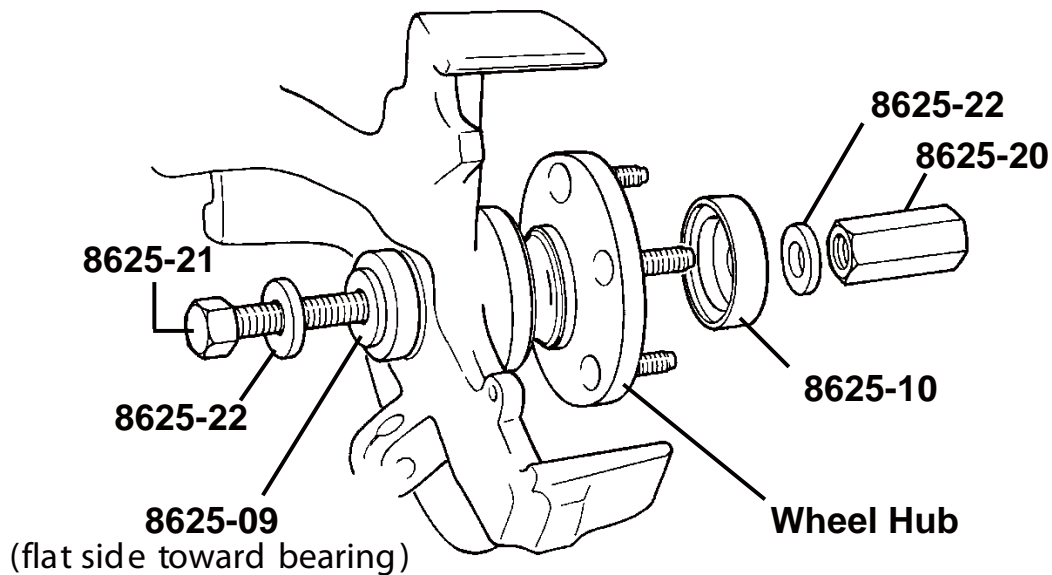

Figure 7
6. Assemble the tool components as shown in Figure 7 and install the hub.